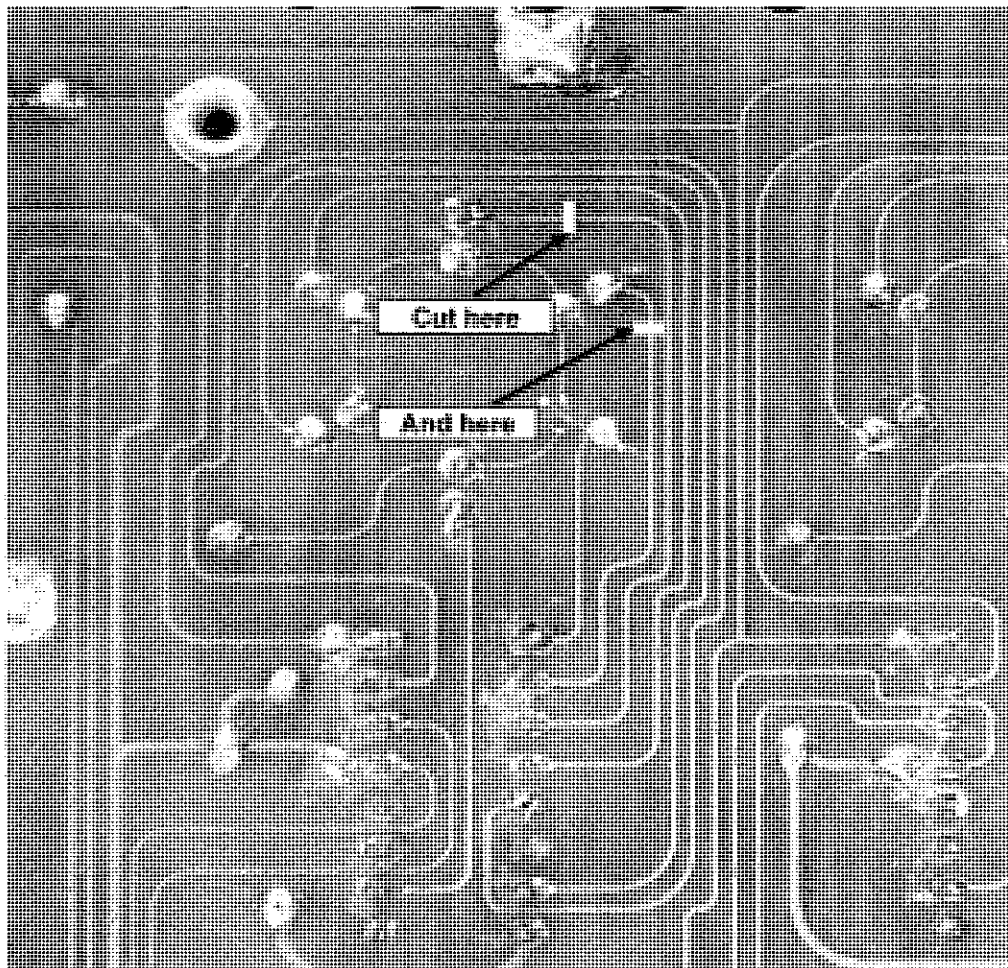

Figure 1
2. Orient the Roll the Dice printed circuit card as shown in Figure 1.